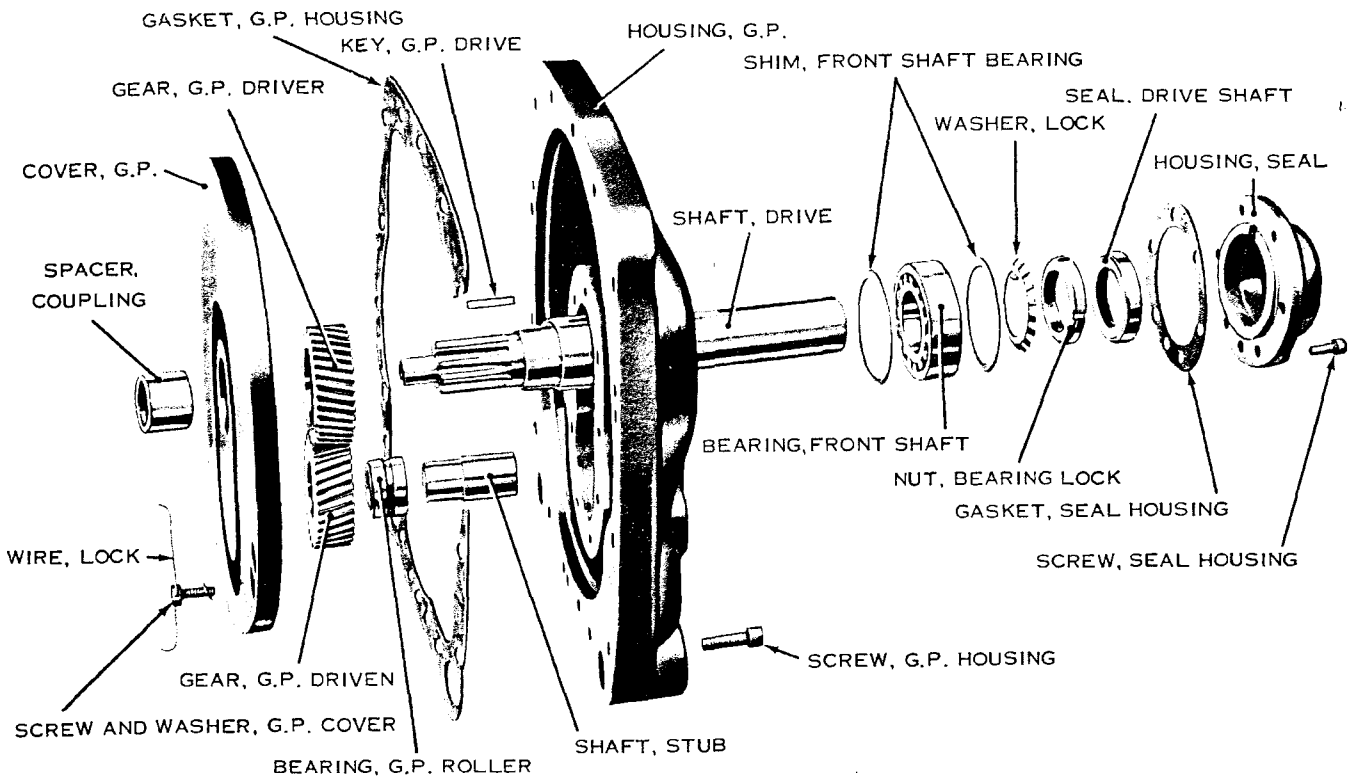

Figure 4. Gear Pump, Assembly, Exploded View
C. GEAR PUMP UNIT. (See Figs. 4 and 12.)
1. HOUSING AND SHAFT ASSEMBLY REMOVAL. To remove gear pump housing and shaft assembly without removing pump from the oil reservoir, disconnect the drive coupling, remove electric motor mounting screws and slide motor back on base. Remove screws (72A), screw two hook bolts into taps on top of housing (72) and slide assembly out horizontally. Avoid supporting gear pump housing assembly on shaft alone while removing unit from pump case.
2. SHAFT REMOVAL. To remove shaft, see paragraph VI-B-11. Unless inspection is necessary, leave seal (27), housing (71) and bearing (11) on shaft to avoid damaging seal on keyway edges. Shaft does not have to be removed to inspect gears (22 and 23).
3. GEAR REMOVAL. Remove wire (106), screws (74) and gaskets (70). Lift off cover (73) and gear pump gears (22 and 23). All gears are fitted with .003" to .005" side clearance and outside diameter clearance.